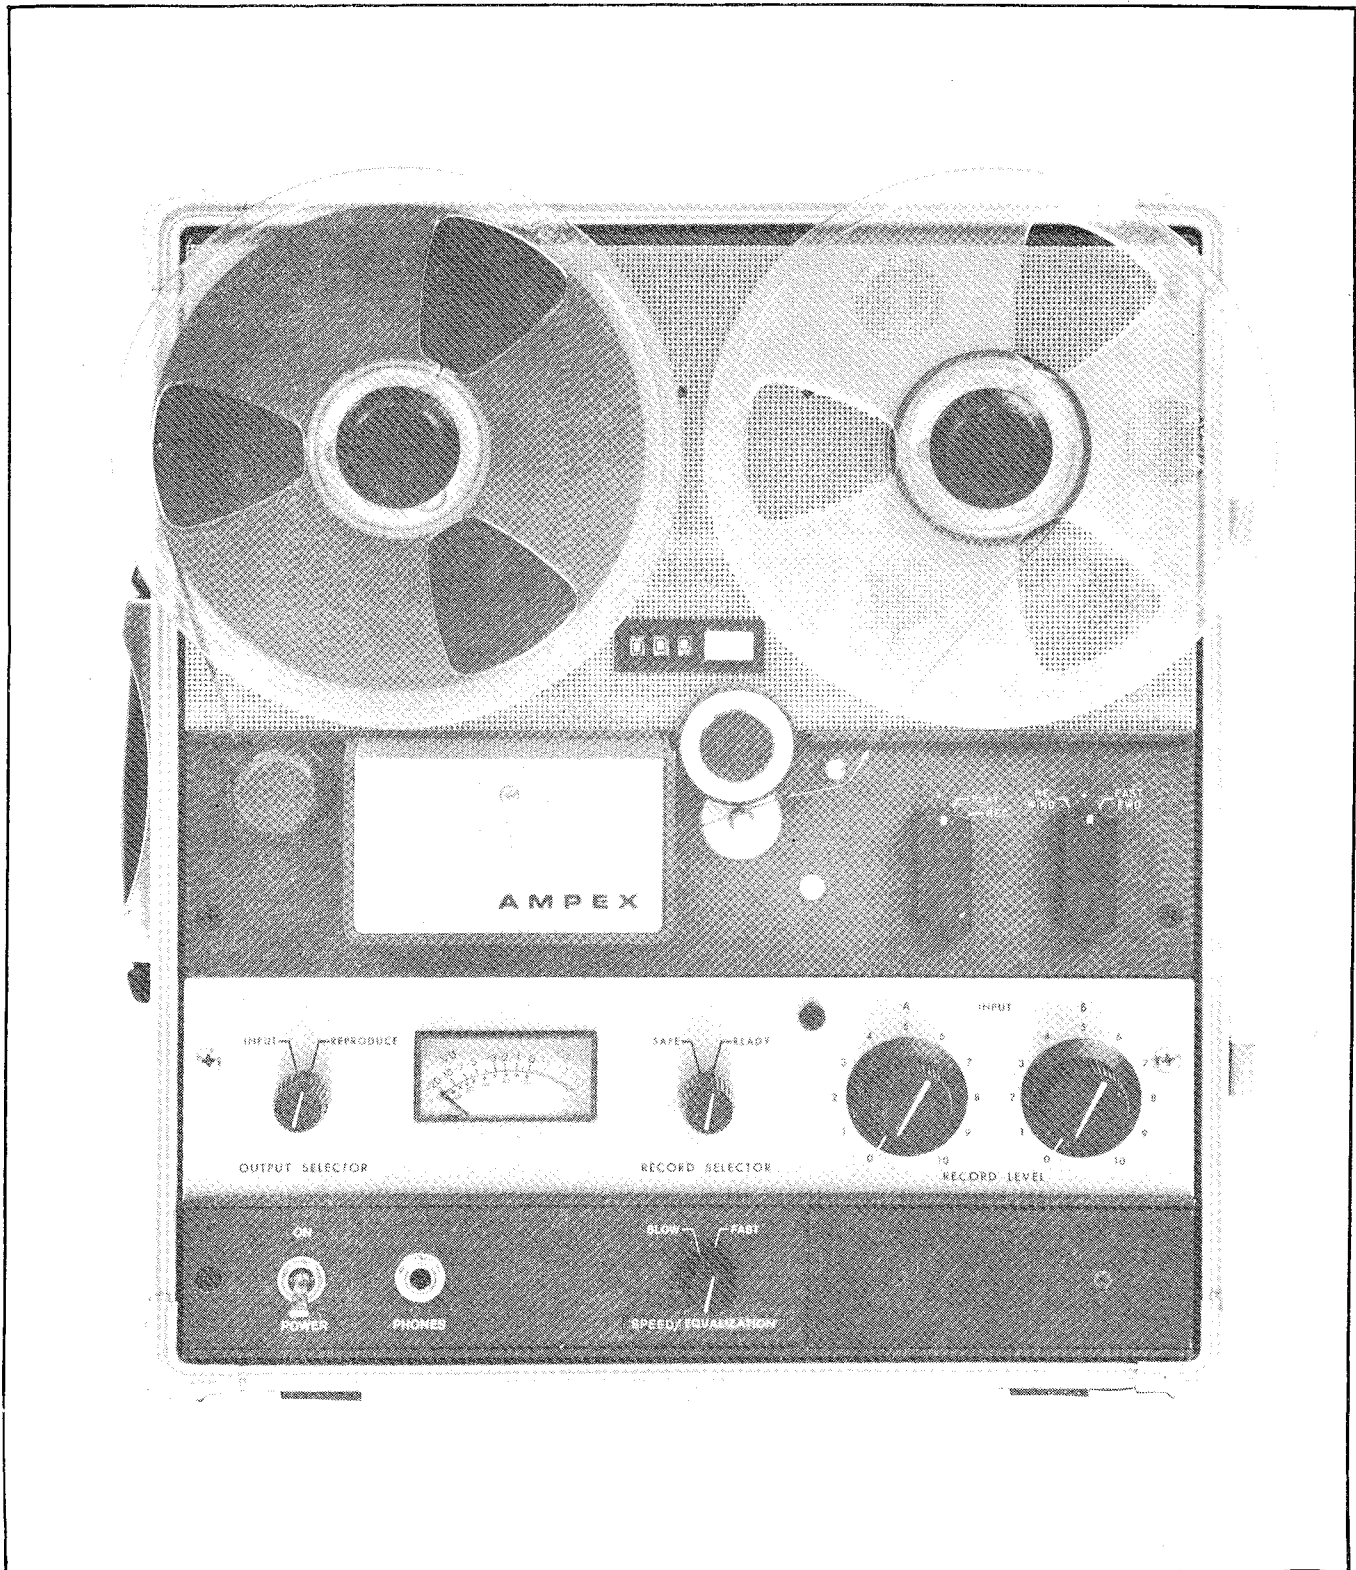

Figure 1-1. AMPEX AG-600B Recorder/Reproducer
1.2 The Ampex Model AG-600B Magnetic Tape Recorder/Reproducer (Figure 1-1) consists of a compact tape transport and one (for single-track) or two (for two-track) compact electronics processing units adaptable for either studio or portable use. The tape-drive system features a hysteresis-synchronous, two-speed, low-heat motor for smooth and efficient tape movement. The electronic circuits are all solid-state, to ensure high-level performance and dependability. The tape transport uses 1/4-inch tape on reels up to seven inches in diameter.